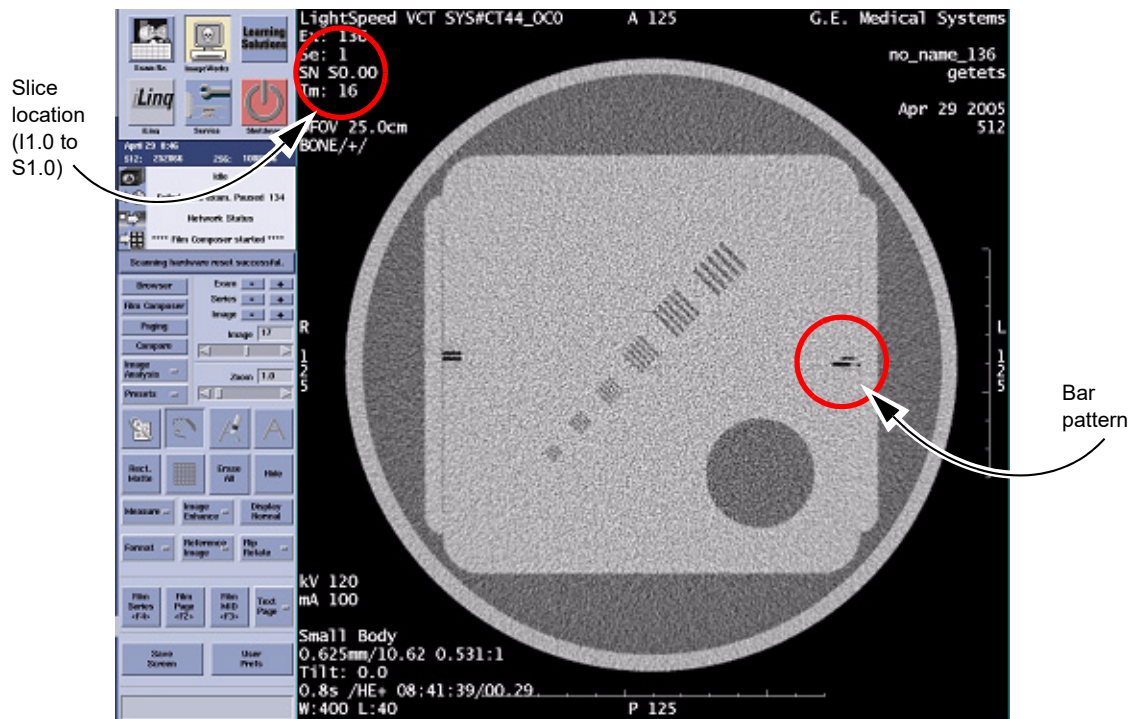

Figure 7-2 Exam, Series, Image 1
- 11.) Locate the scan plane indicator, the longest bar in the bar pattern on the right side of the phantom. The right side of the phantom corresponds to the side of the image labeled **L** on the display screen. See Figure 7-2.